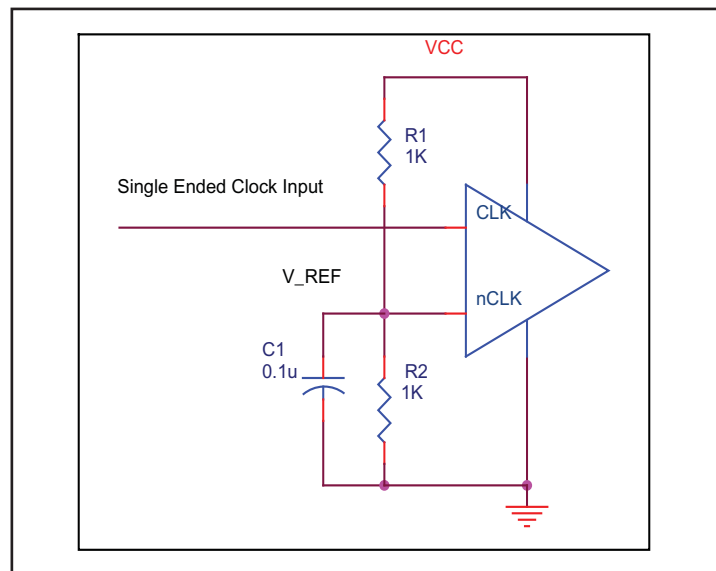

FIGURE 4. SINGLE ENDED SIGNAL DRIVING DIFFERENTIAL INPUT
*Figure 4* shows how the differential input can be wired to accept single ended levels. The reference voltage  $V_{REF} = V_{cc}/2$  is generated by the bias resistors  $R_1$ ,  $R_2$  and  $C_1$ . This bias circuit should be located as close as possible to the input pin. The ratio